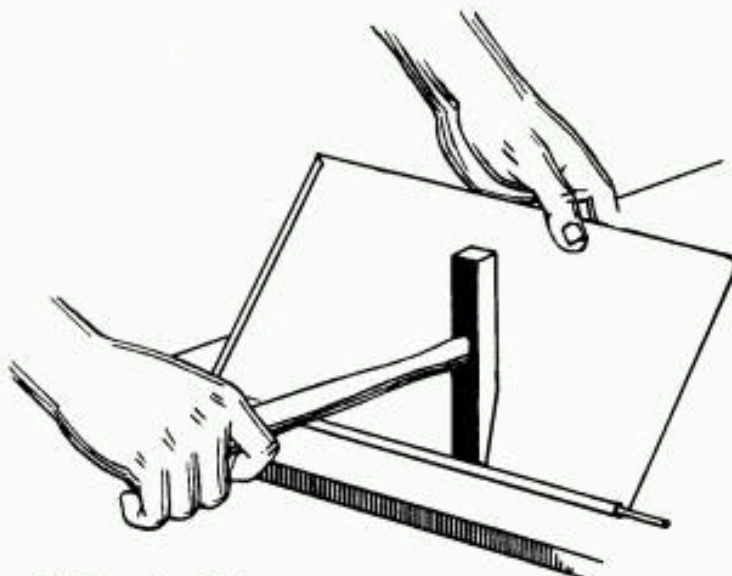

FIG. 4 COMPLETING A WIRED EDGE
7. With the peen of the setting hammer, complete the wired edge by peening the metal down tightly over the wire. (Fig. 4).